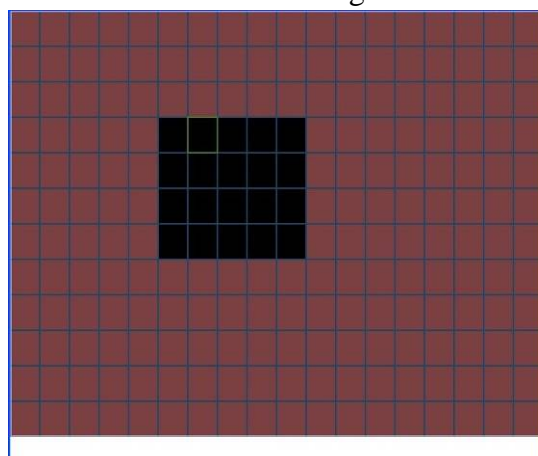

Figure 4-19
- Region: Click select button, the interface is shown as in Figure 4-19. Here you can set motion detection zone. There are 396(PAL)/330(NTSC) small zones. The green zone is current cursor position. Grey zone is the motion detection zone. Black zone is the disarmed zone. You can click Fn button to switch between the arm mode and disarm mode. In arm mode, you can click the direction buttons to move the green rectangle to set the motion detection zone. After you completed the setup, please click ENTER button to exit current setup. Do remember click save button to save current setup. If you click ESC button to exit the region setup interface system will not save your zone setup.
In Figure 4-19, you can left click mouse and then drag it to set a region for motion detection. Click Fn to switch between arm/withdraw motion detection. After setting, click enter button to exit.